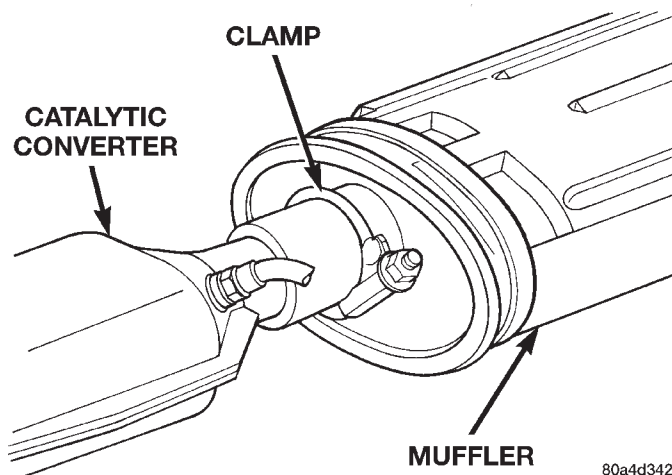

Fig. 5 Catalytic Converter to Muffler Connection
(1) Raise the vehicle and support the rear of the vehicle by the side rails and allow the axle to hang free.
(2) Remove the clamp from the catalytic converter and muffler connection (Fig. 5).